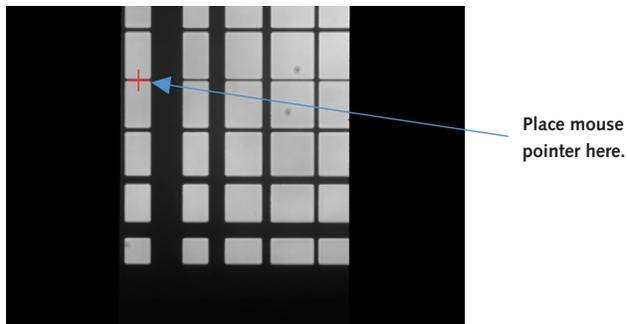

Figure 15. Image of the grid with an edge of the grid in the field of view and the cursor placed at the left edge of the image on the thinnest line.
1. Place your mouse pointer on one of the horizontal lines in the image, as far to the left in the image as possible (**Figure 15**). Be very careful not to touch or move the mouse; you will be using its position as a reference point.